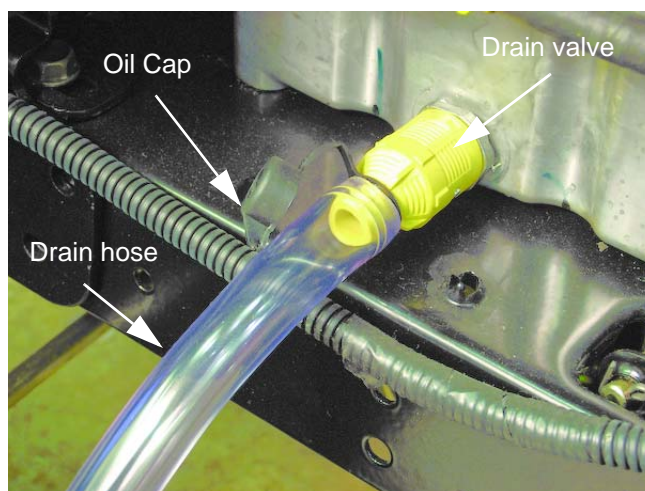

Figure 9.4
1. Remove the cap from the oil drain. See Figure 9.4.